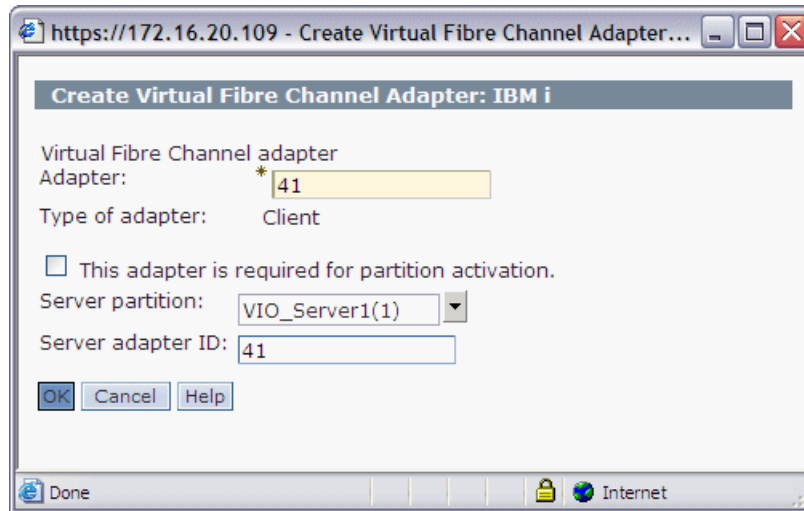

Figure 16-21 Define virtual adapter ID values
- c. Enter virtual slot number for the Virtual Fibre Channel client adapter. Then select the Virtual I/O Server partition to which the adapter can be assigned and enter the Server adapter ID as shown in Figure 16-21. Click **OK**.